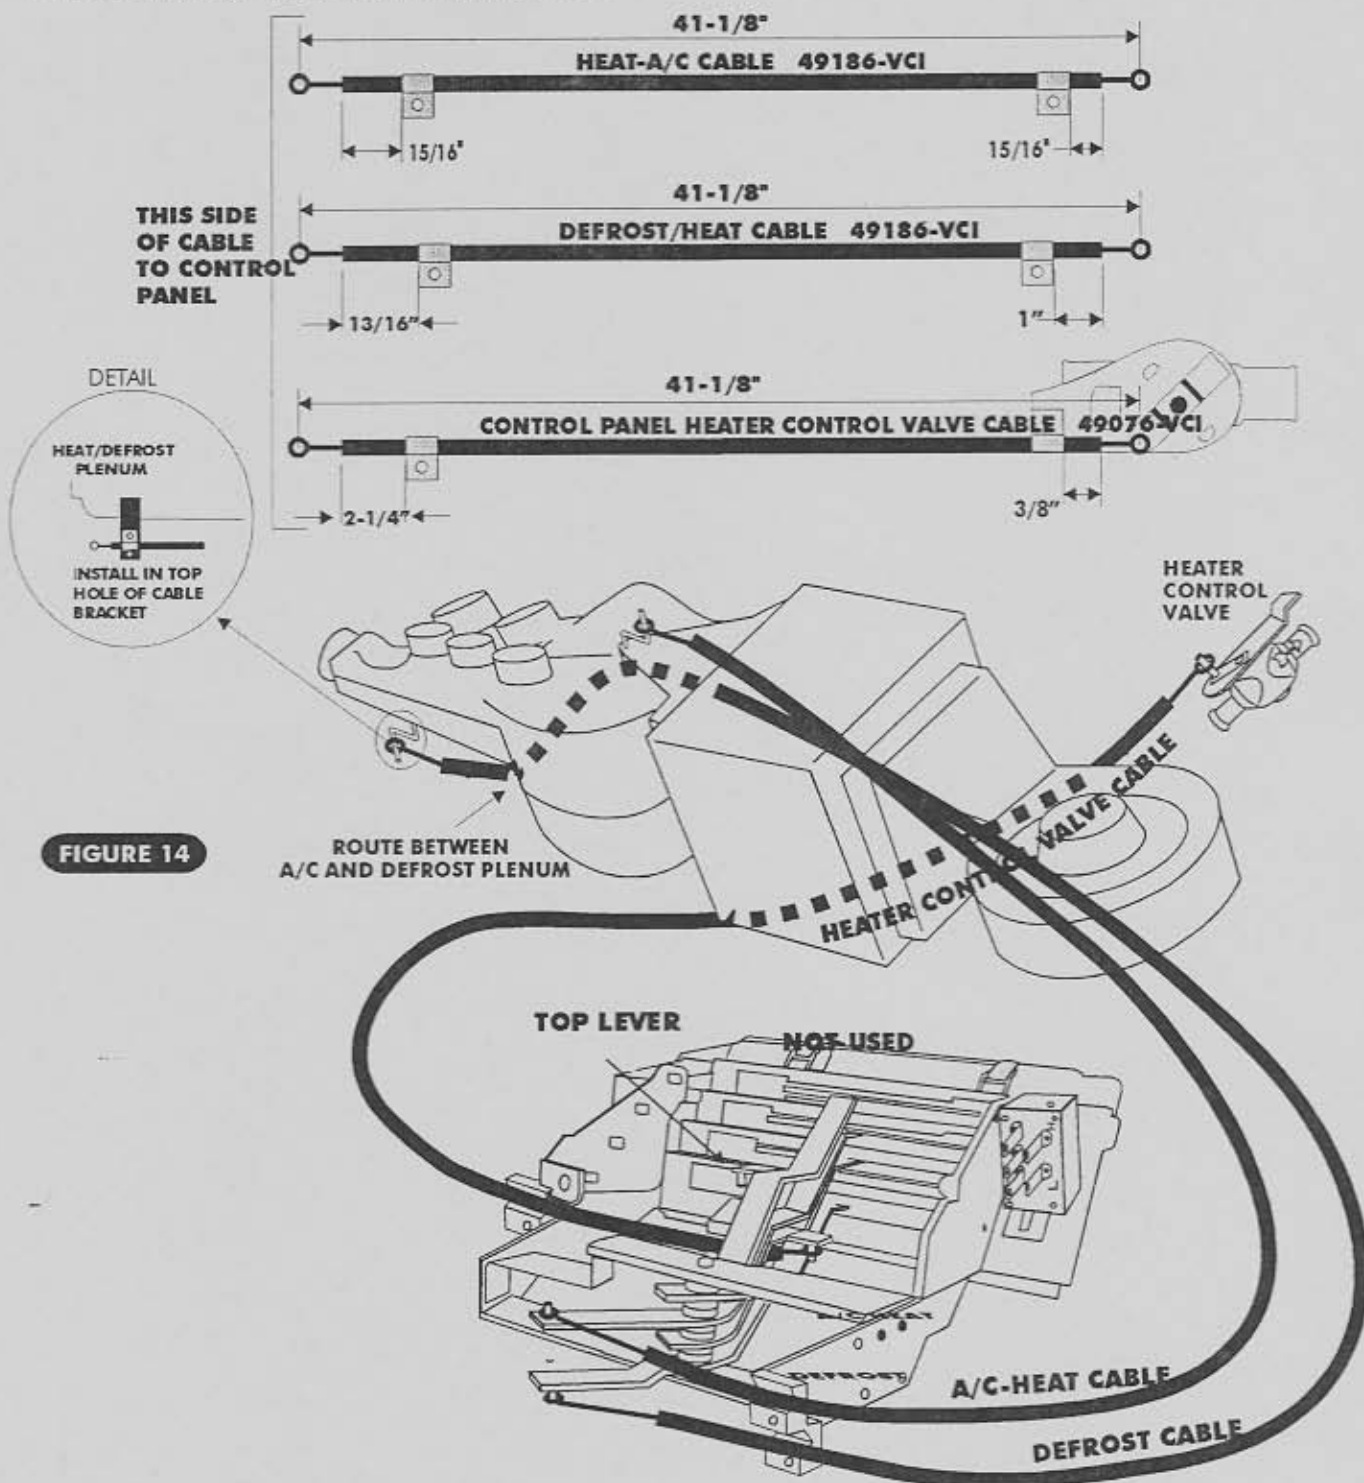

FIGURE 14
- CONNECT ALL CABLES AS SHOWN IN FIGURE 14.
- ROUTE ALL CABLES AS SHOWN IN FIGURE 14.
- ❑ CONNECT ALL CABLES AS SHOWN IN FIGURE 14, PAGE 8. AFTER INSTALLING CABLES AND VERIFYING FULL OPENING AND CLOSING OF EVAPORATOR DOOR, HEAT/DEFROST DOOR AND HEATER CONTROL VALVE, YOU ARE READY TO COMPLETE THE WIRING TO VERIFY PROPER OPERATION OF THE UNIT.
- ROUTE AND ATTACH ALL CABLES FROM CONTROL PANEL TO EVAPORATOR AS SEEN IN FIGURE 17 PAGE 11 AND FIGURE 14, PAGE 8.